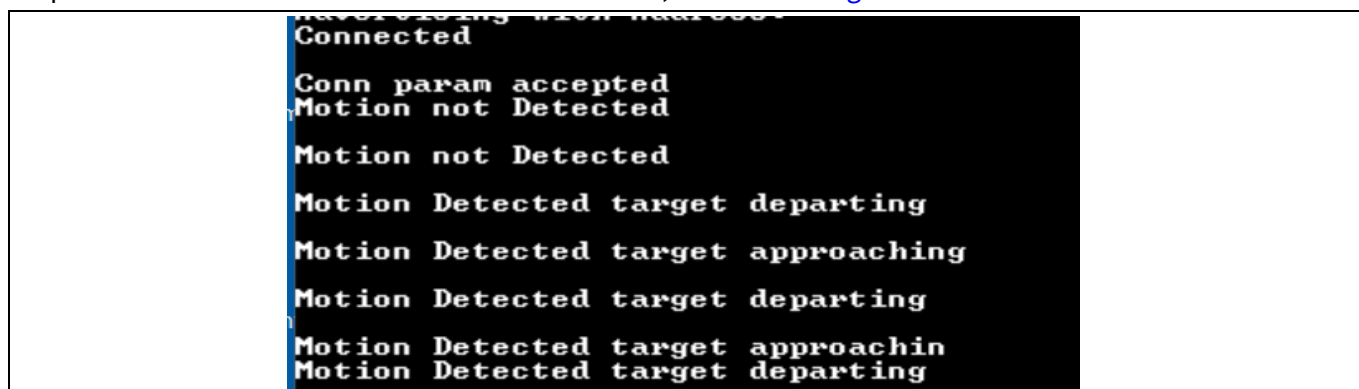

Figure 16 Serial terminal output showing motion detection status
3. Open the Infineon's "60 GHz Radar" app and click "Connect". The serial terminal will then output the presence detection status and direction of motion, as shown in Figure 16.